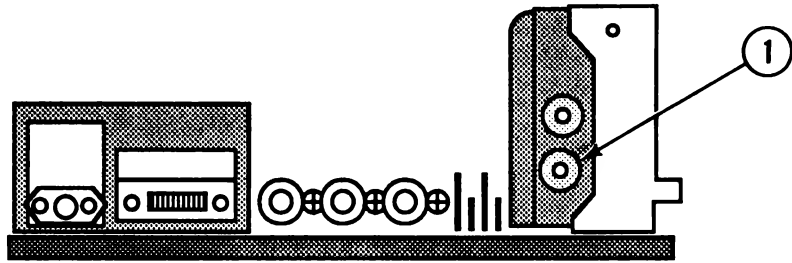

FIGURE 10
14. If the screen is still visible, turn the SCREEN control (Figure 10, #1) counterclockwise until the display disappears.